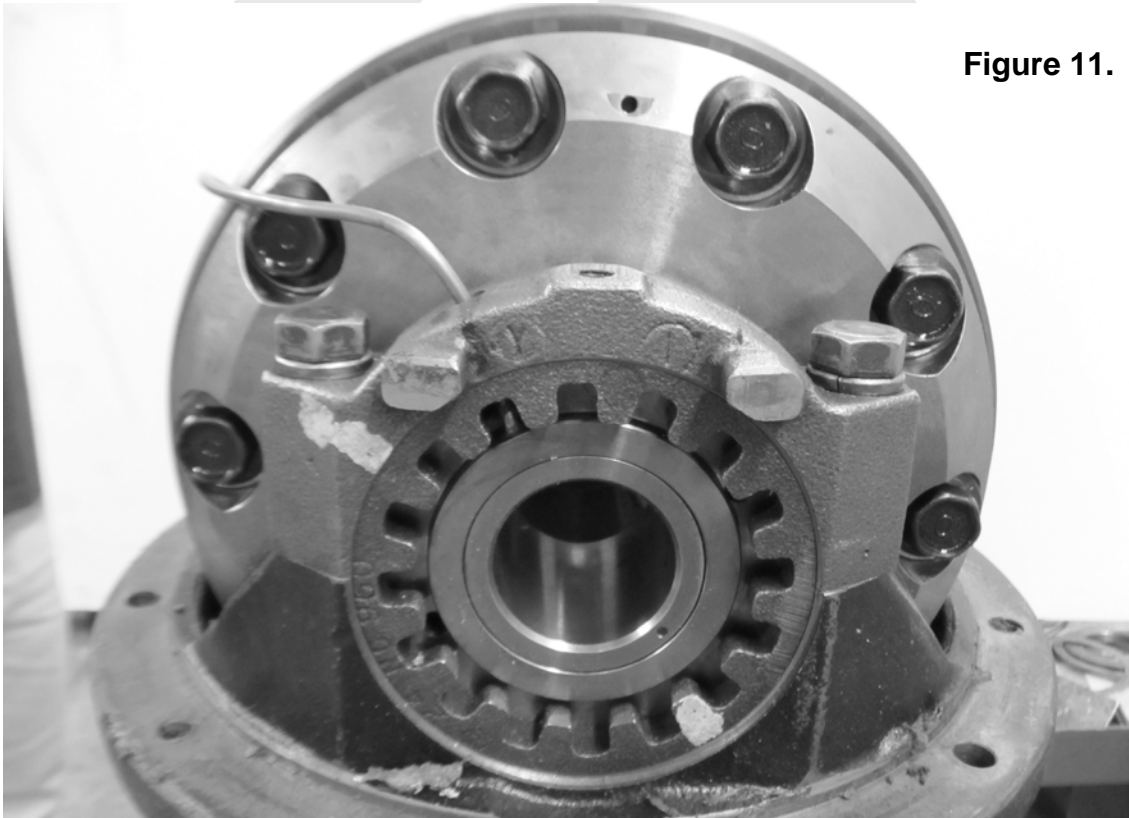

Figure 11.
- ☐ Using a soft jawed vice clamp, setup the bearing cap for drilling the hole at the angle shown (Fig. 11.).
☐ Place the *Air Locker* into the differential housing, ensuring that the seal housing tube will line up with the hole in the bearing cap, and install the bearing caps (Fig. 11.)